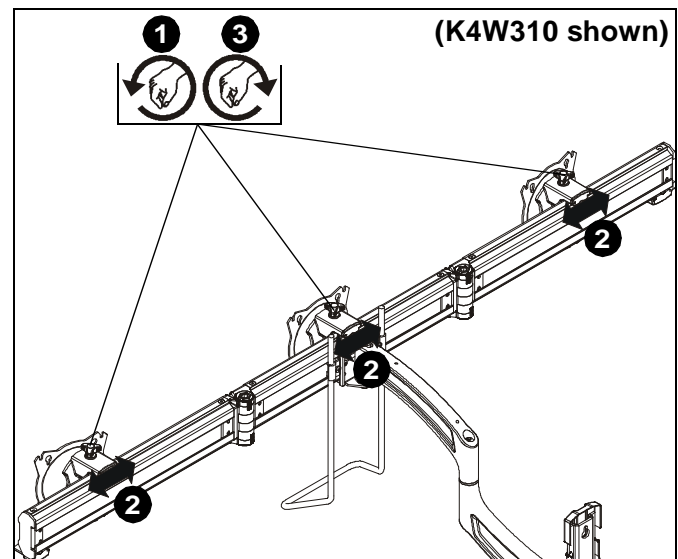

Figure 27
- Loosen knob on top of faceplate assembly until faceplate can slide freely along array. (See Figure 27)
- Adjust lateral position as desired. (See Figure 27)
- Tighten knob to secure lateral position. (See Figure 27)